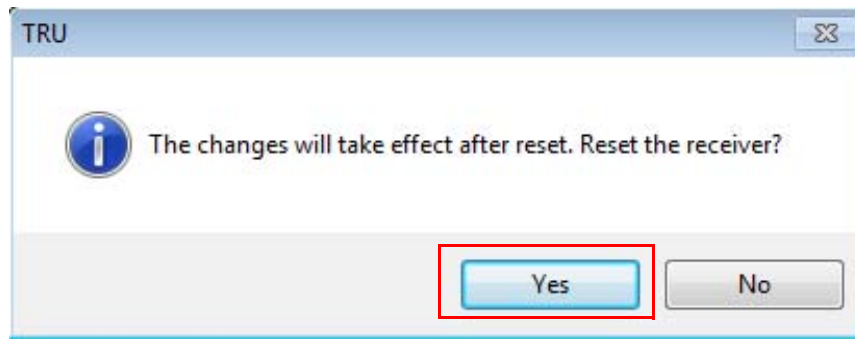

Figure 25:Reset Receiver
- Click **Yes** at the prompt to reset the receiver (Figure 25).